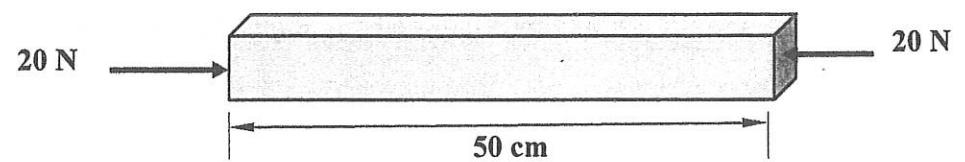

Figure A1(a) / Rajah A1(a)
- (b) Figure A1(a) shows a steel bar of 50.0 cm x 5.0 cm x 2.0 cm bears a compression load of 20 N. Determine the stresses and strains in the bar where the Young Modulus given is 215 GN/m².